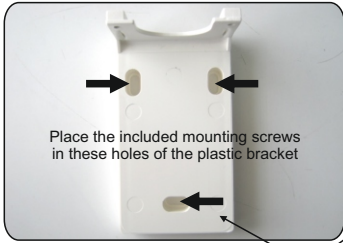
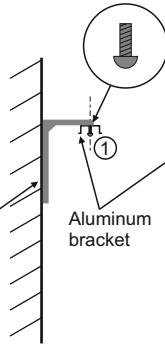

Figure 1
Figure 2. Side view
- ⑦ Install the included plastic bracket on the wall (figure 1). Remove the aluminum bracket from the luminaire and use the two supplied mounting screws to install the aluminum bracket to the plastic bracket (figure 2). Slide the luminaire to the aluminum bracket and use the bolt on the center (*), to stabilize the luminaire (figure 2).